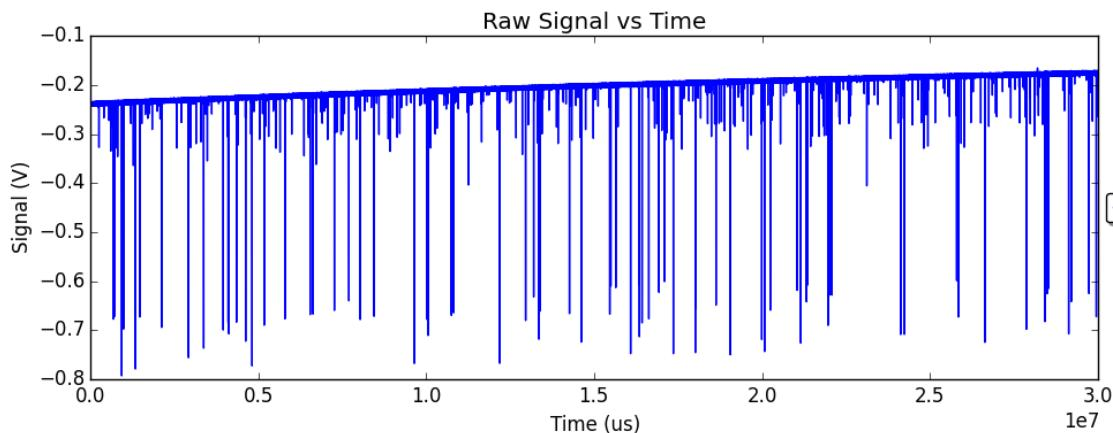

Figure 10. Exemplary raw data: Smooth baseline with particle detection events appearing as downward spikes.
- Raw data should have the form shown in Figure 10—it has a smooth baseline with particle detection events appearing as downward spikes from the baseline.